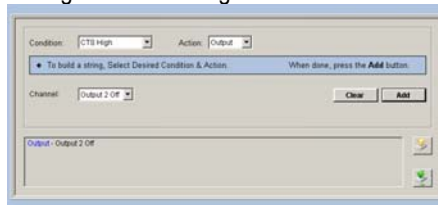

Figure 11 – Output
- When done, the user clicks the **Add** button to append the command to the existing user string as shown in Figure 11.